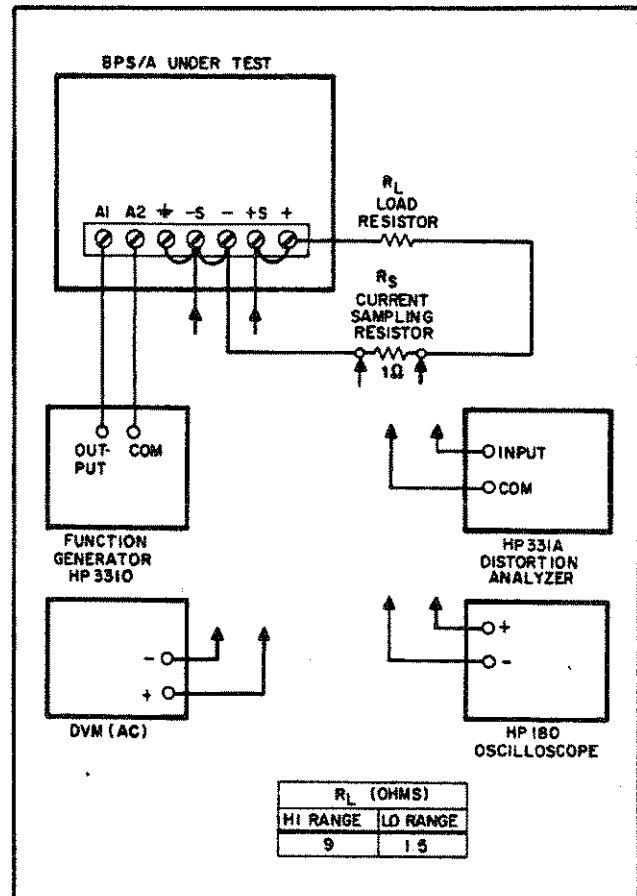

Figure 5-16. Amplifier Mode Test Setup
- Connect the test setup as shown in Figure 5-16. Use the appropriate low range load resistor (R_L).
- a. Connect the test setup as shown in Figure 5-16.